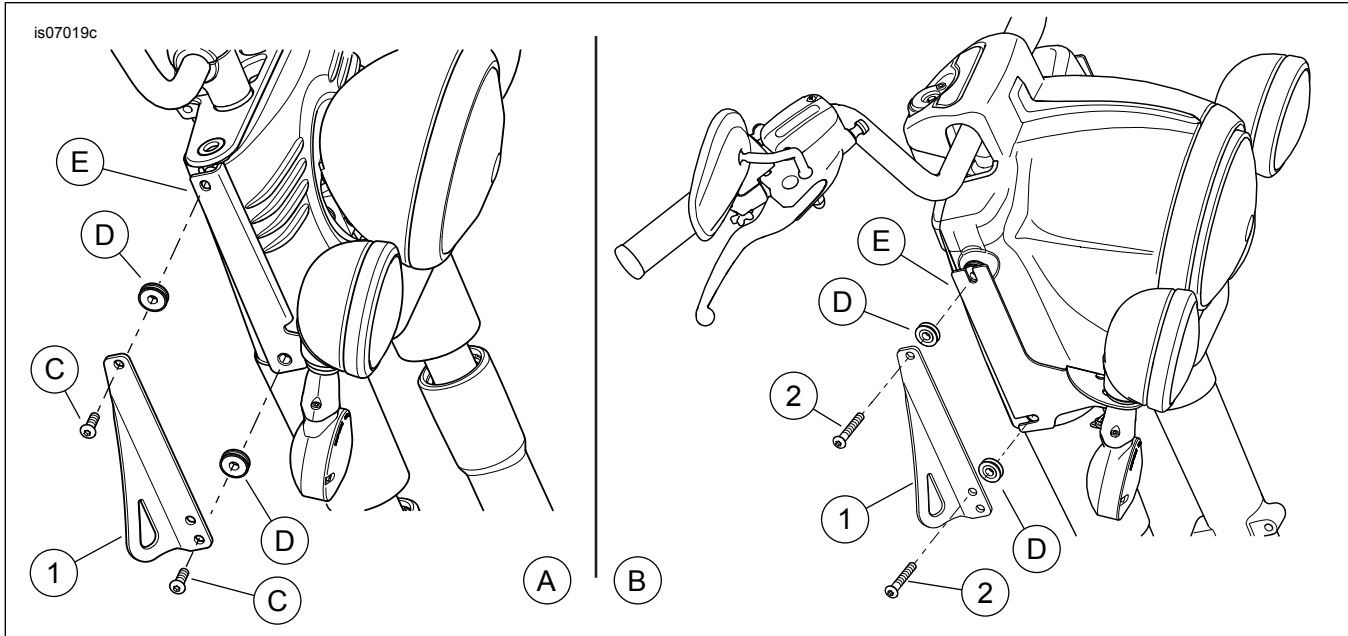

Figure 1. Tie Down Bracket Installation
See Figure 1 and Table 1. This kit consists of a right and left tie down bracket (1), four screws (2) and these instructions. Only the screws (Part No. 4219) are available separately.